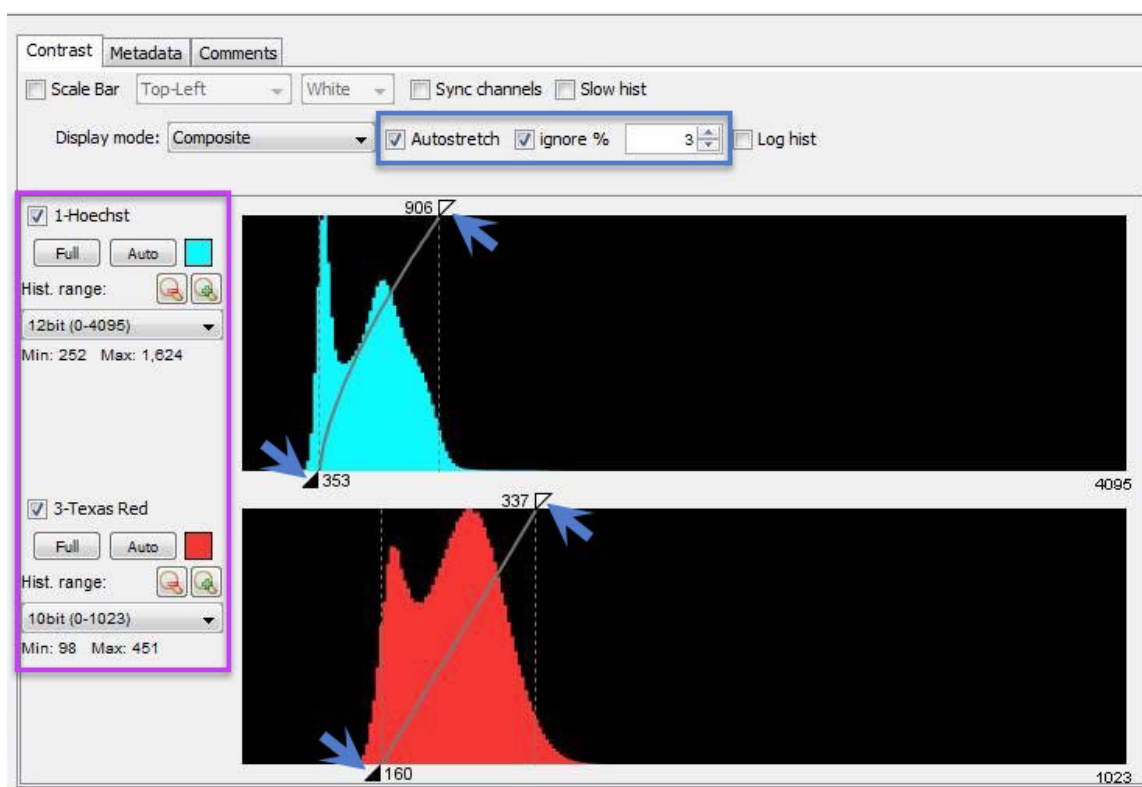

Figure 22. Adjusting camera depth and image contrast.
- a. In the *Main* window, select the *Contrast* tab and confirm that the “Camera Depth” menu is set to **12 bit (0-4095)** for Hoechst and **10 bit (0-1023)** bit for Texas Red in the (purple box in Figure 22, below).
- b. Next, confirm that the [Autostretch] and [Ignore] boxes are selected and that the percentage value is in the range of **1–3%** for the Ignore option (blue box in Figure 22, below). If this does not provide optimal contrast, drag the ends of the diagonal line (see arrows in Figure 22, below) closer to the range of the histogram peaks and zoom out when satisfied with the focus in the Z-plane.